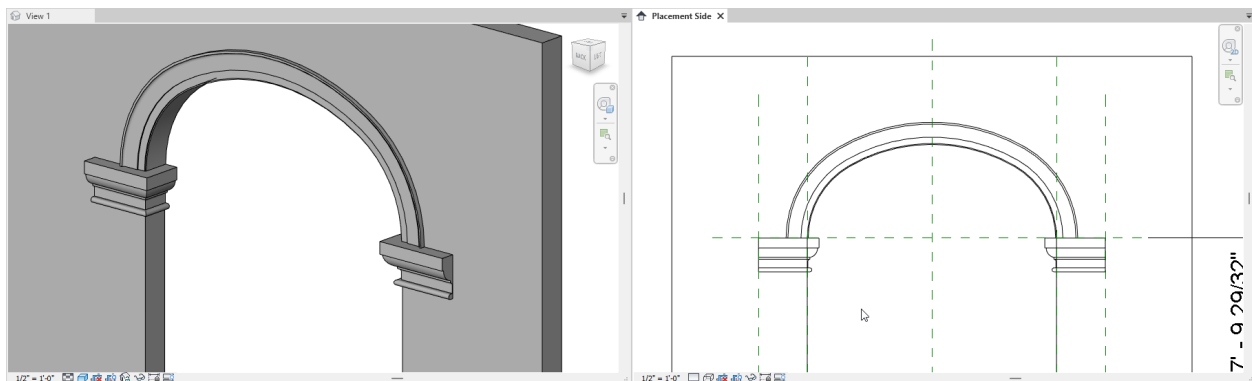

Figure 66—Move the moldings up to the springline
10. In the *Placement Side* elevation view, align and lock the two molding families to the Springline reference plane. Use the TAB key as needed (see Figure 66).